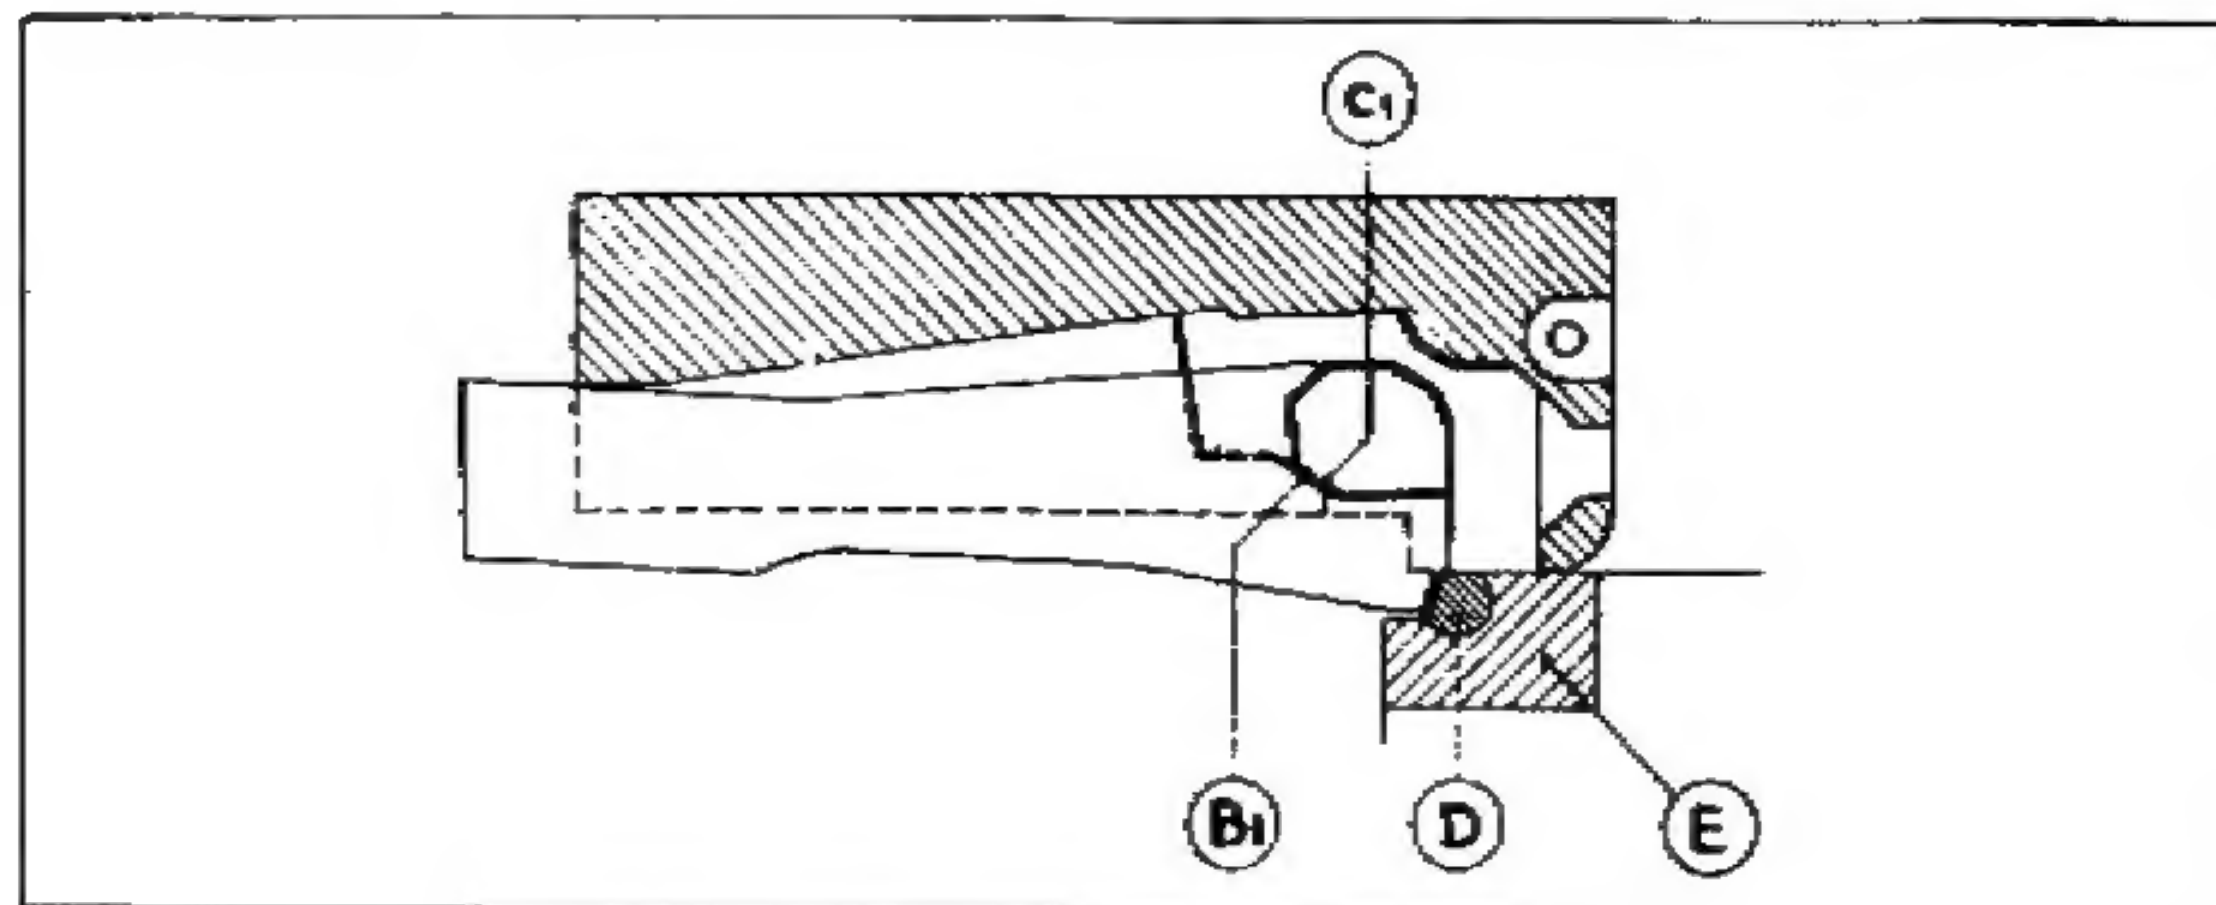
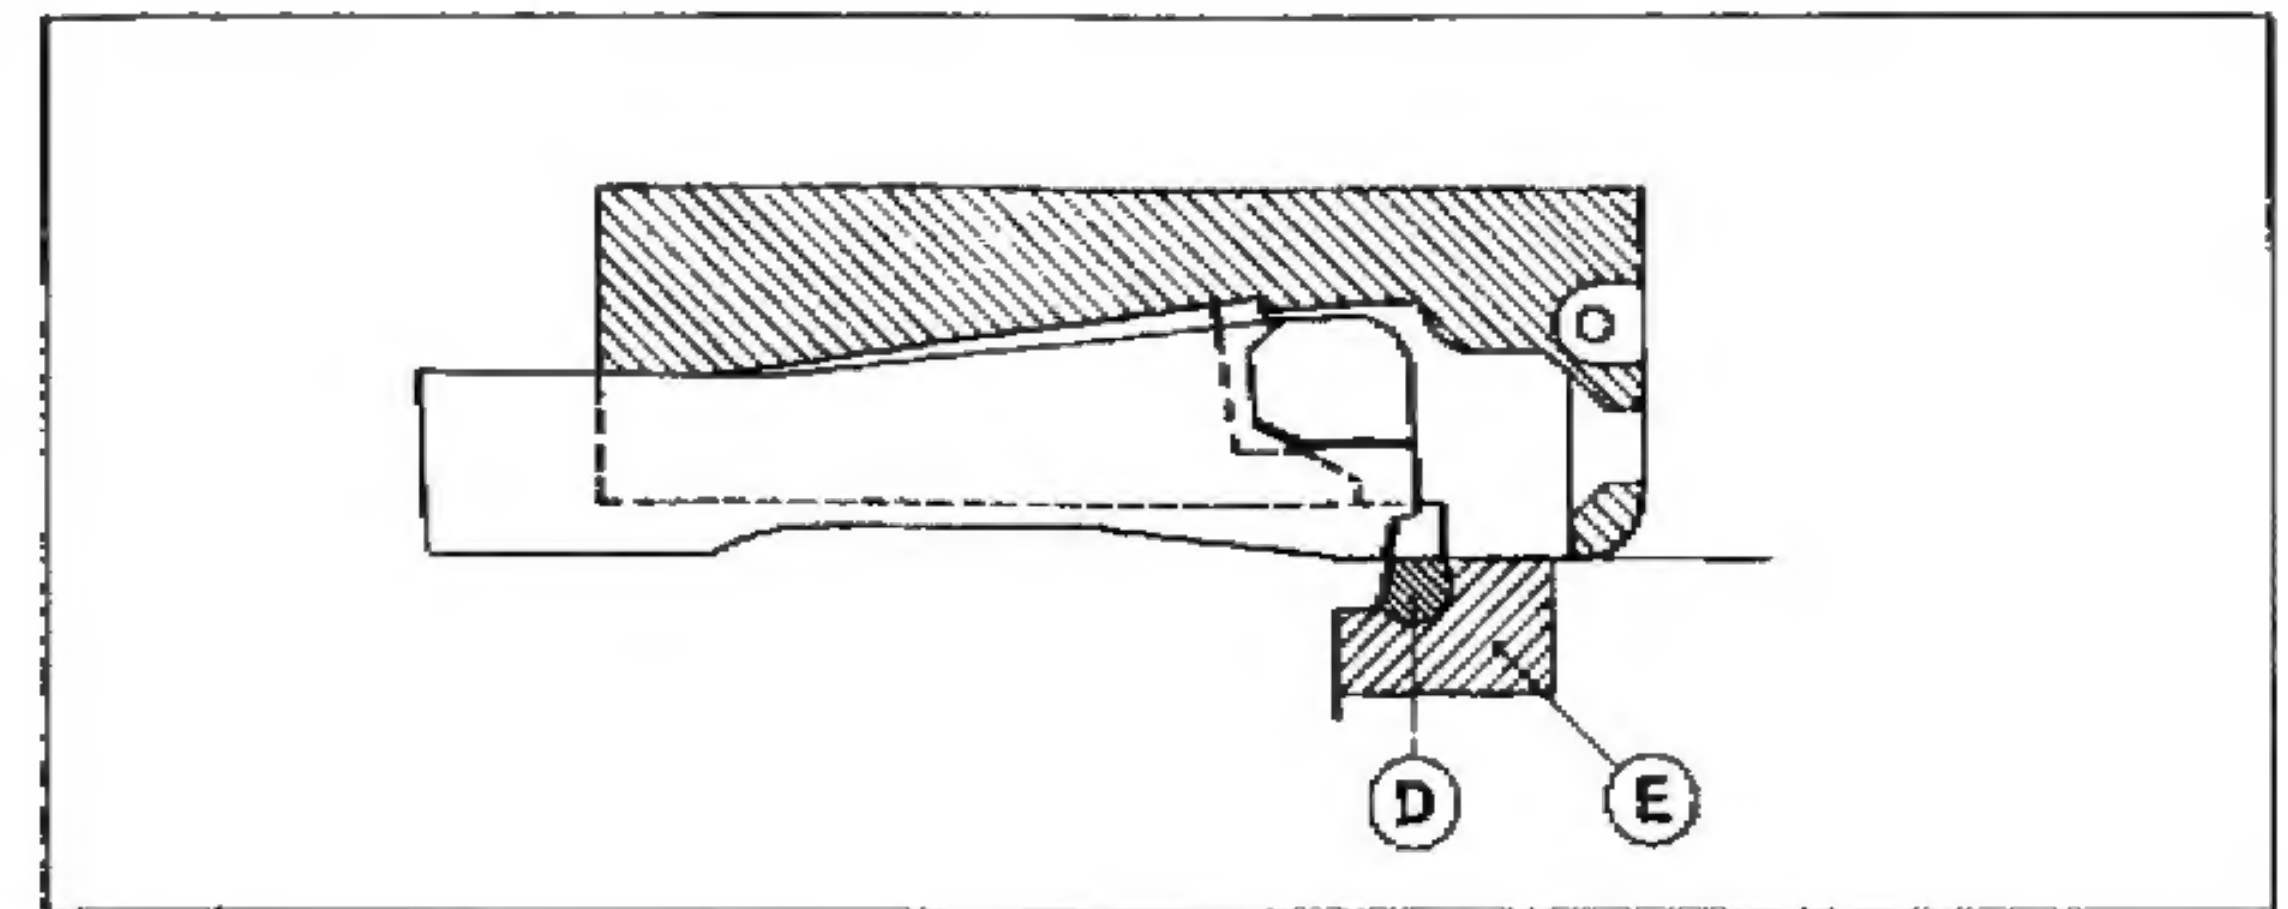

Fig. 6
Fig. 7
- As the slide moves backwards, the ramps of the slide (B1) engage the cams of the breech block (C1) (fig. 6), raising the rear end of the breech block and lifting it out of engagement with its locking shoulder (D) in the body (E) (fig. 7).